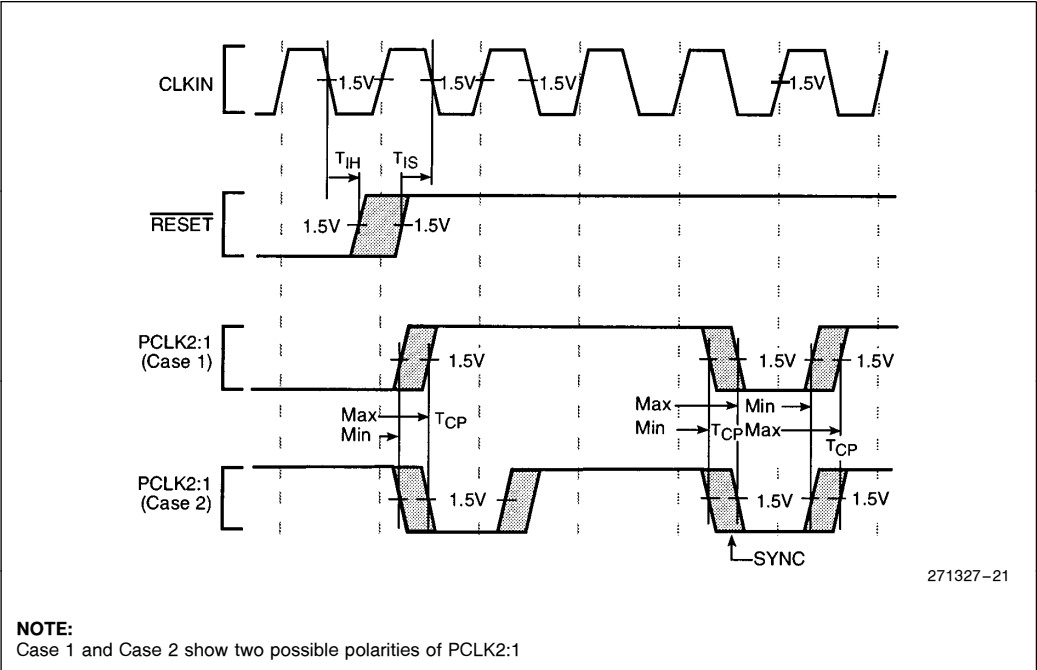

Figure 21. Clock Synchronization in the 2-x Clock Mode
- In 2-x clock mode, $\overline{RESET}$ is an asynchronous input which has no required setup and hold time for proper operation. However, to guarantee the device exits reset synchronized to a particular clock edge, the $\overline{RESET}$ pin must meet setup and hold times to the falling edge of the CLKIN. (See Figure 21.)